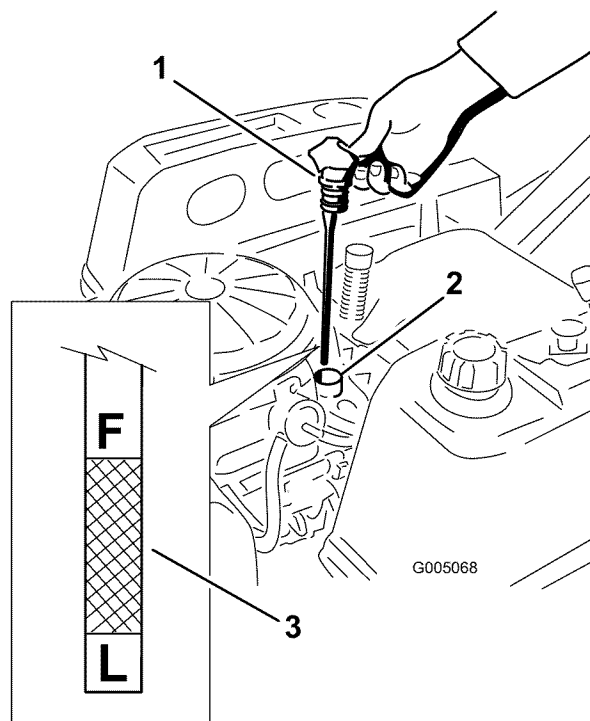
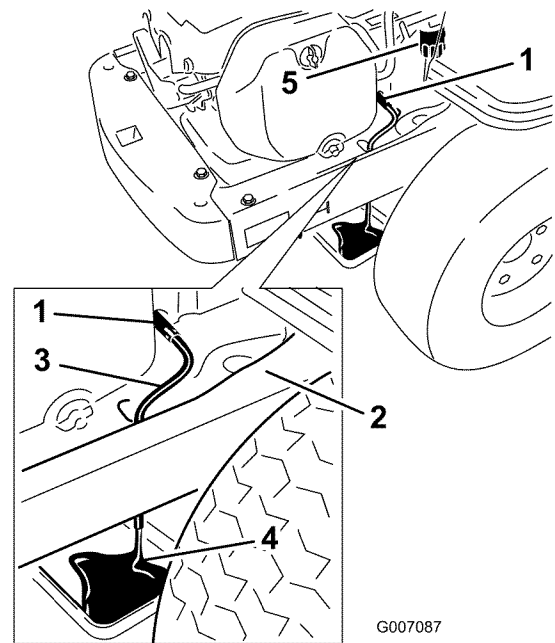

Figure 25
Figure 27
- Remove the dipstick and check the oil level. (Figure 25).
- Pull and remove the oil fill cap/dipstick; wipe oil off. Reinsert the dipstick and push firmly into place (Figure 25).
7. Place a pan underneath machine directly below the drain hole in the frame as shown in Figure 27.
8. Open the oil drain valve to allow oil to drain (Figure 27). Remove the oil fill cap/dipstick (Figure 25).
10. Remove the old filter and wipe off the mounting pad (Figure 27).
11. When oil has drained completely, close the oil drain valve. Remove the oil drain hose and wipe up any excess oil on the frame (Figure 27).
15. Slowly pour approximately 80% of the specified oil into the filler tube (Figure 25).
16. Install the oil fill cap/dipstick and push firmly into place (Figure 25).
17. Check the oil level (Figure 25); refer to Checking the Oil Level.
19. Install the oil fill cap/dipstick and push firmly into place (Figure 25).